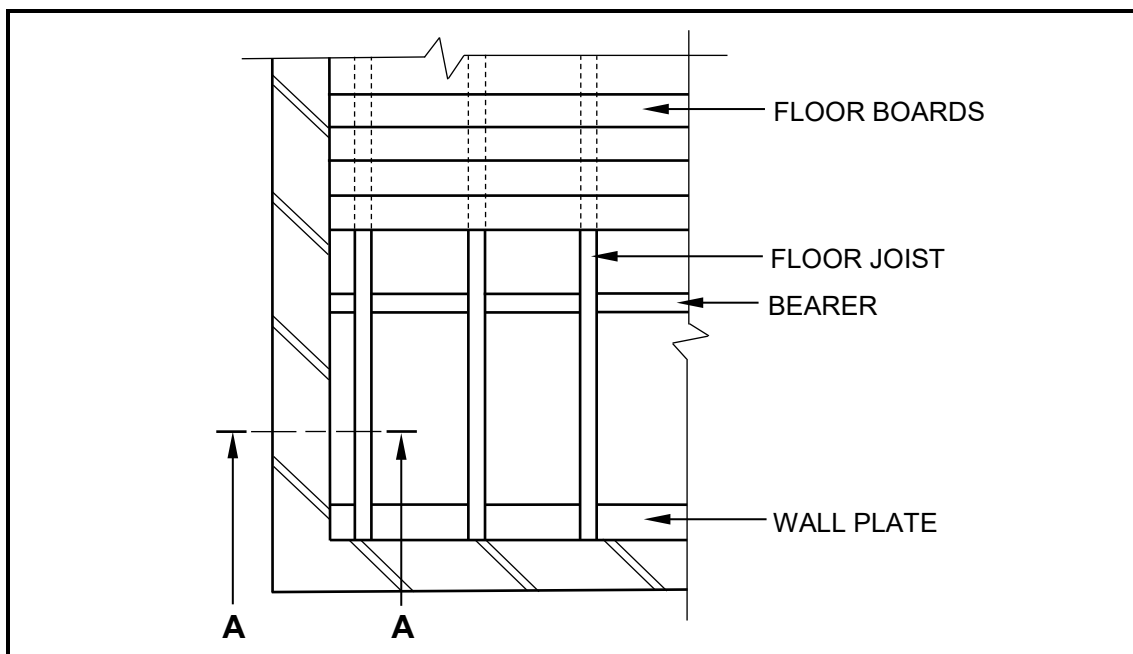

FIGURE 6.5
- Print the title below EACH drawing. (8)
- 6.5 FIGURE 6.5 below shows part of the top view of a ground level suspended timber floor with section line **A-A**.